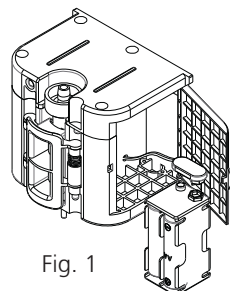

Fig. 1
- Check the battery unit (item 5). Are the batteries new and do they have enough power? (Use 4 pieces of 1.5 volt ALKALINE batteries type AA). Are the batteries placed correctly (see fig. 1)?